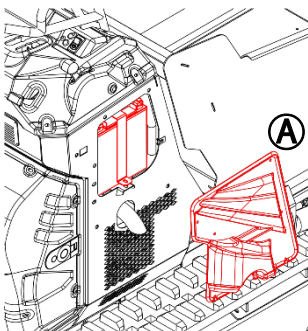

fig.4.12 – Battery Compartment
The battery of the C7X-700 is housed in a compartment on the right side of the dashboard. To access it, it is necessary to remove the plastic cover ① from the dashboard (see Fig. 4.12).